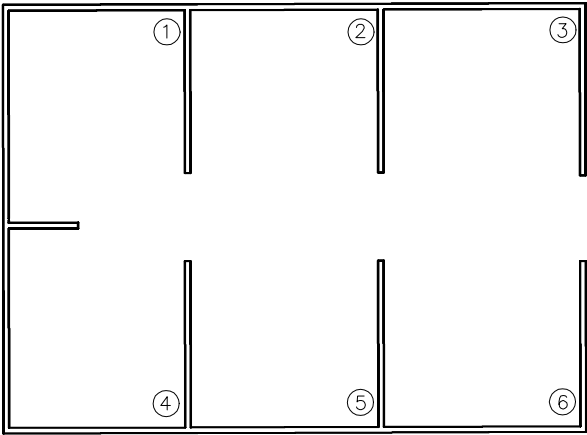

Figure 15-11 Floor plan drawing for Example 2
1. Make the floor plan drawing as shown in Figure 15-11 (assume the dimensions).